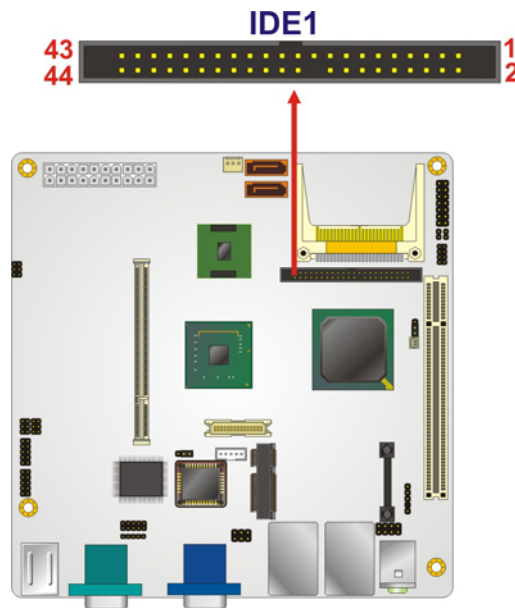

Figure 4-8: IDE Device Connector Locations
- CN Location:** See Figure 4-8